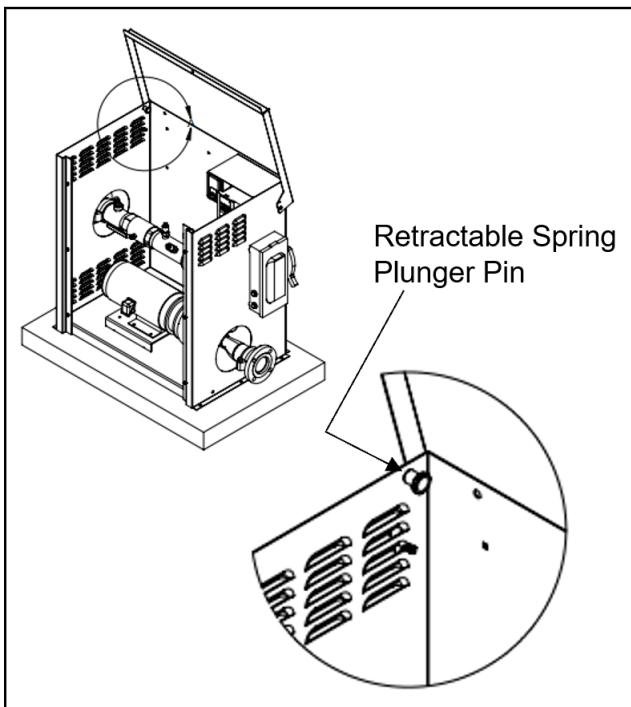

Figure 5-2. Engaging The Retractable Spring Plunger Pin.
- a. Raise the pump station hood. Ensure that the retractable spring plunger pin on the left side of the enclosure near the hinge pin is engaged in the hole adjacent to the hinge pin on the cover. See Figure 5-2.
side of the enclosure near the hinge pin with the other. Disengage the plunger pin from the hole adjacent to the hinge pin before lowering the hood. See Figure 5-2.
with the other. Disengage the plunger pin from the hole adjacent to the hinge pin before lowering the hood. See Figure 5-2.